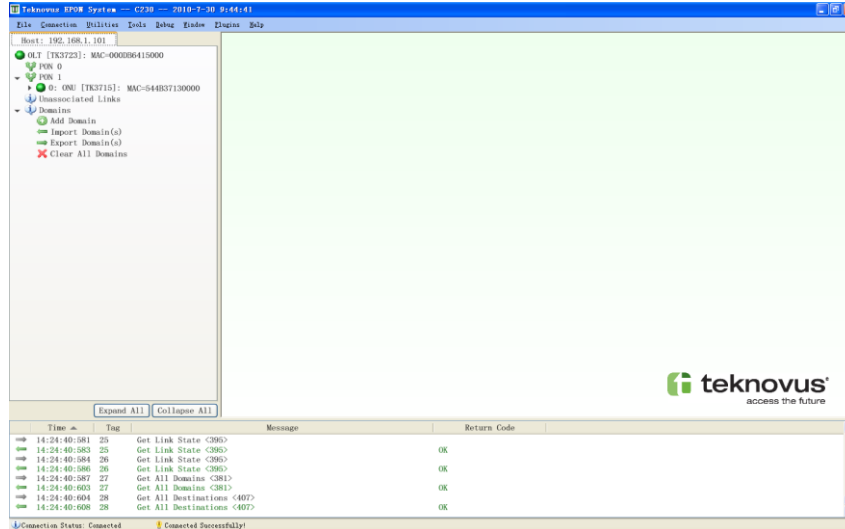

Figure 2-3 ONU Display in GUI
- ✓ Click the “▶” on the left side of the PON icon, then it will display that the PON port is connected to the ONU; if there is no “▶” displayed, then it indicates that the PON port isn’t connected to any ONU. The Figure 2-3 displays 2 ONUs, and the GUI will display the quantity of ONU connected to the splitter.